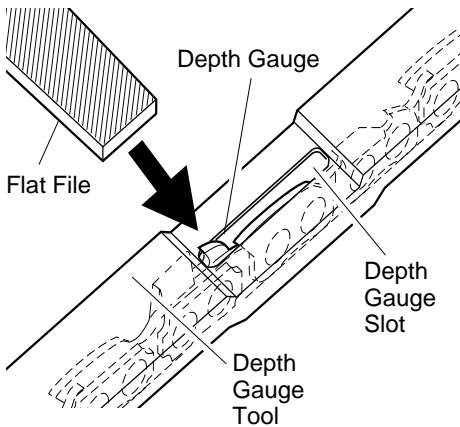

Figure 21 - Depth Gauge Tool On Chain
1. Place depth gauge tool firmly across top of two cutters. Make sure depth gauge enters slot in depth gauge tool (see Figure 21).